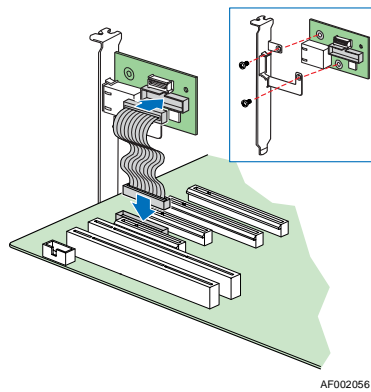

Figure 5: Installing the Intel® RMM2 Dedicated NIC Module
- Attached the NIC module to the add-in card slot bracket as shown in Figure 5. Use the screws provided.